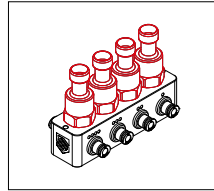

Abb. 15: Pressure sensor bl.
2. Mounting into the optional pressure sensor block (Fig. 15)